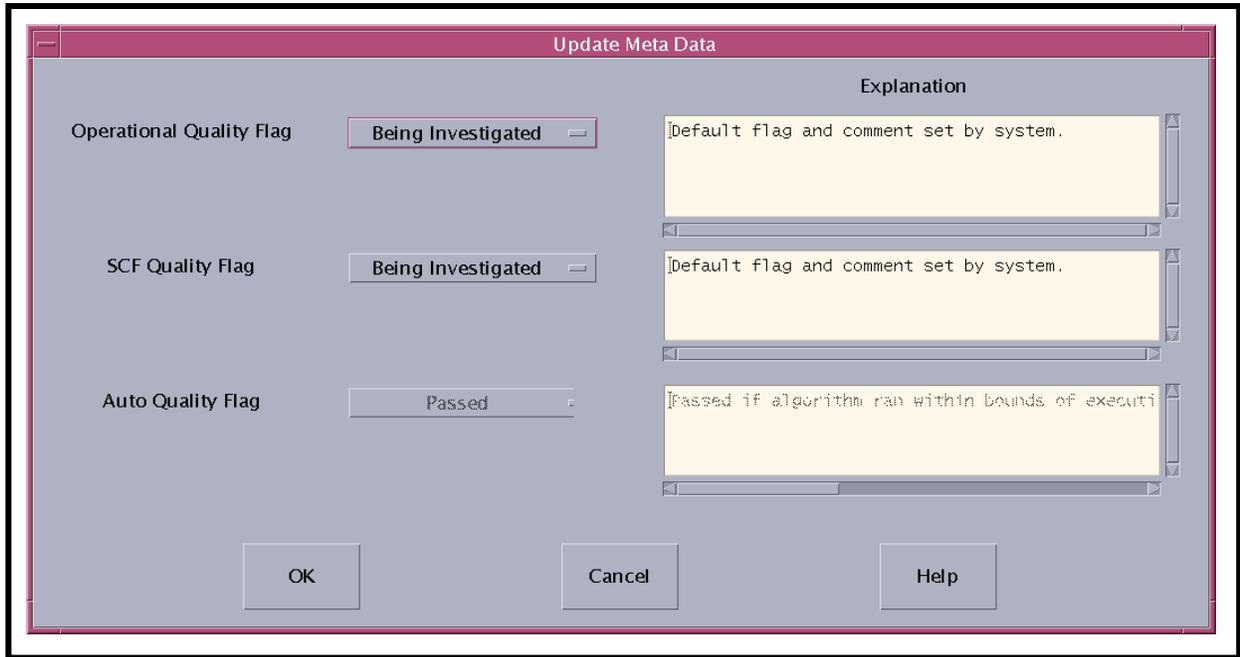

Figure 84. QA Monitor Update Meta Data Window
- The **Update Meta Data** window (Figure 84) is displayed.